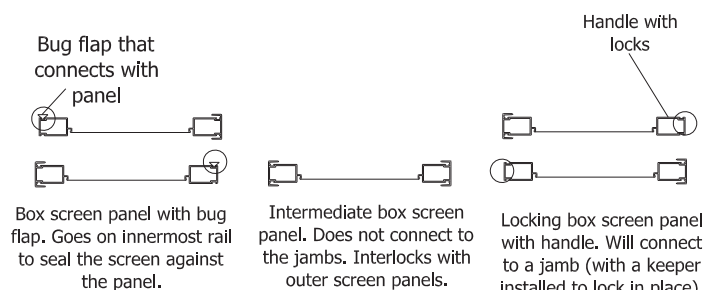

Figure 24
5. **Box screen panels** have different components based on configuration. Identify correct screen panel placement using Figure 24.